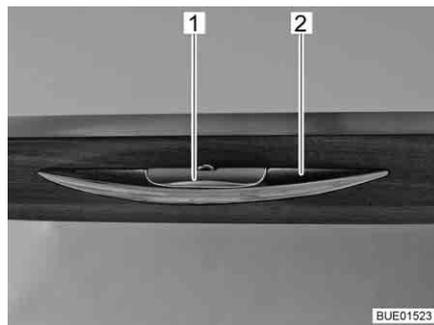

Fig. 82 Handle with unlocking bar
- Press the unlocking bar (Fig. 82,1) and hold it down.
- Pull the handle (Fig. 82,2) until the furniture flap is open.